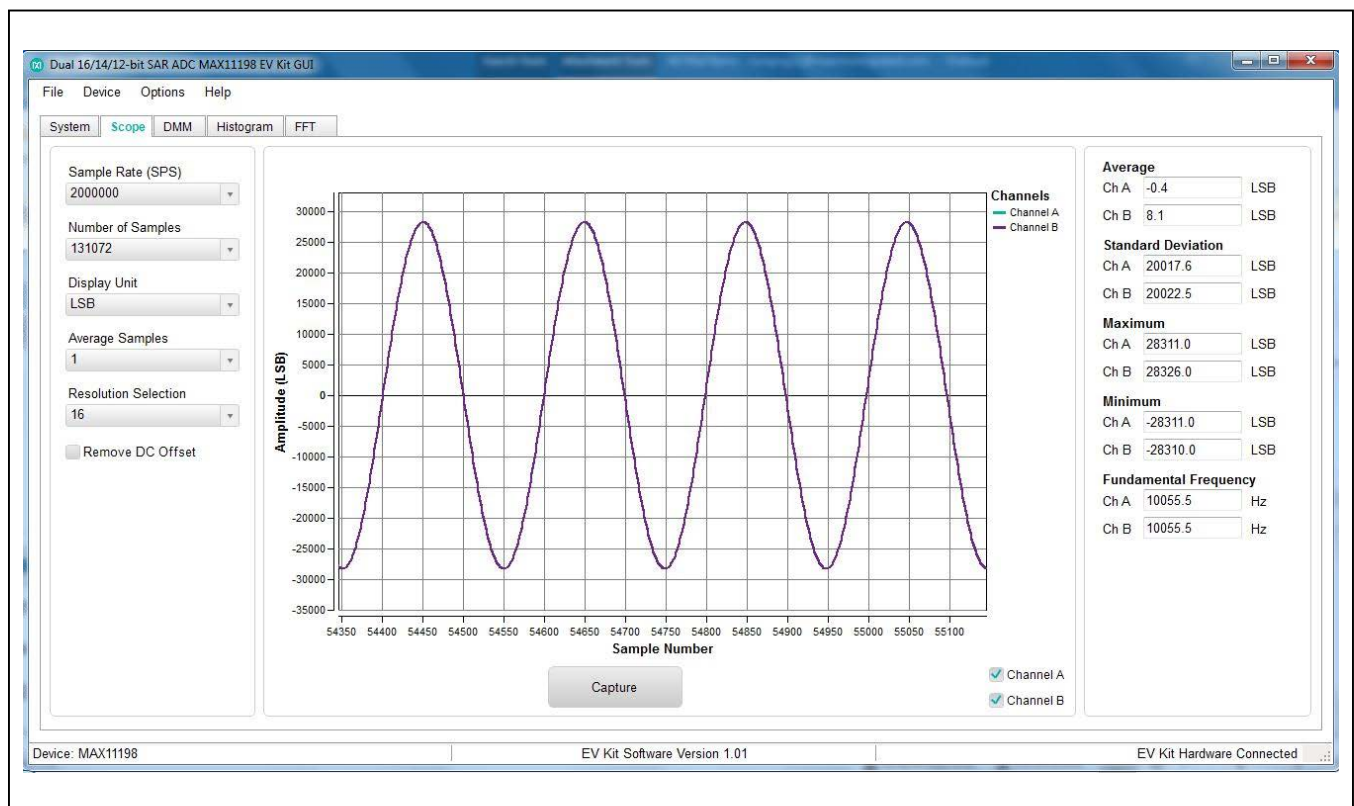

Figure 2. EV Kit Software (ScopeTab)
**of Samples, Display Unit, Average Samples, and Resolution Selection** can be set in this tab if they were not appropriately adjusted in other tabs. The **Display Unit** pull-down list allows counts in LSB and voltages in V, mV, or  $\mu$ V. Once the desired configuration is set, click on the **Capture** button. The right side of the tab sheet displays details of the waveform, such as average, standard deviation, maximum, minimum, and fundamental frequency for each channel as shown in Figure 2.